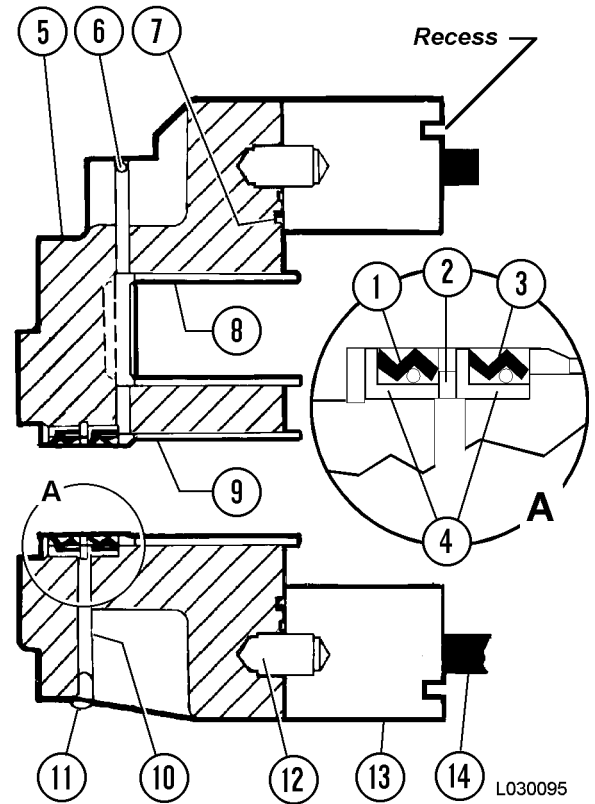

FIGURE 3-8. SHAFT SEAL INSTALLATION
5. Position inboard shaft seal (3, Figure 3-8) with the metal face toward the outboard end of the flange and the lip (spring side) facing towards the inside of the pump.
7. Install snap ring (2, Figure 3-8). Ensure the snap ring opening is over weep hole (10).
8. Install outboard shaft seal (1, Figure 3-8) with the metal face facing out until it just contacts the snap ring. Lubricate the seals with hydraulic oil.
9. Lubricate stud threads (14, Figure 3-8) with hydraulic oil. Thread the studs into the flange until snug. There are four long studs (11, Figure 3-9) and four short studs (12). Refer to Figure 3-9 for the stud location.
10. Lubricate and install O-ring (7, Figure 3-8). Install dowel pins (12), if removed. Install gear plate (13) with the recess in the gear plate facing up or toward the connector plate when the gear plate is installed.